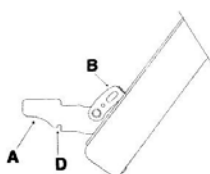

Fig 1
- Open the door completely and lift the 2 levers “B” (fig.1);